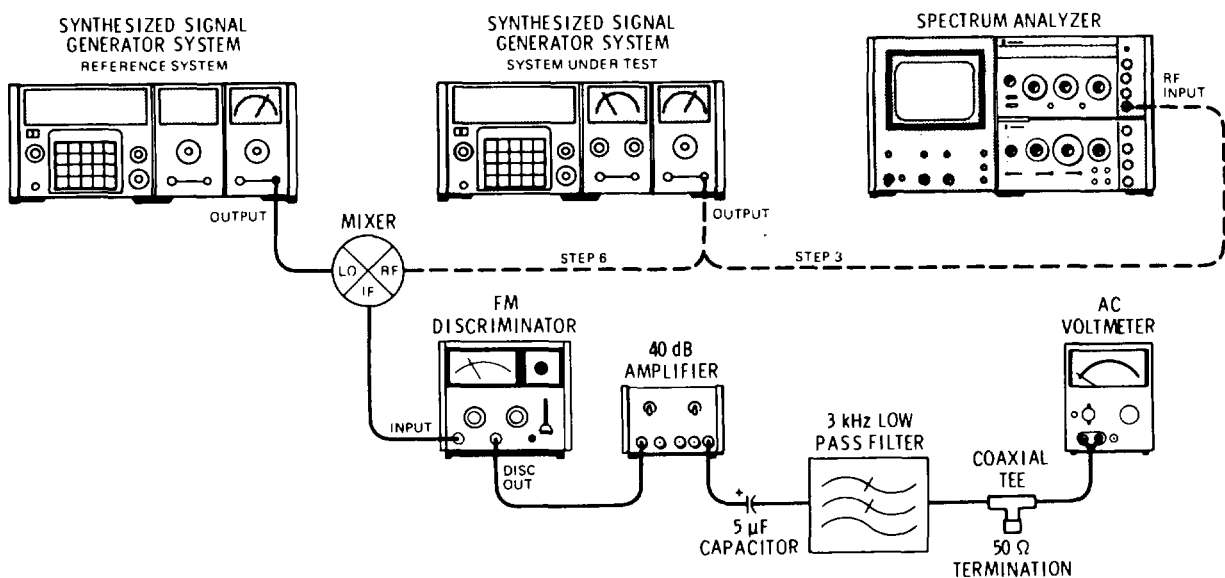

Figure 4-10. Residual FM Test Setup
3. Connect the System Under Test OUTPUT jack to the spectrum analyzer's RF input jack as shown in Figure 4-10.
6. Disconnect the spectrum analyzer from the System Under Test and connect the other equipment as shown in Figure 4-10.